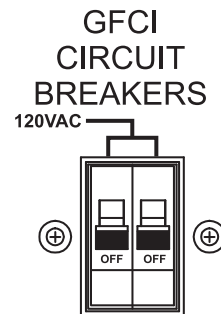

Figure 52. GFCI Circuit Breakers (OFF)
6. Place the **GFCI circuit breakers** (Figure 52) in the **OFF** position.